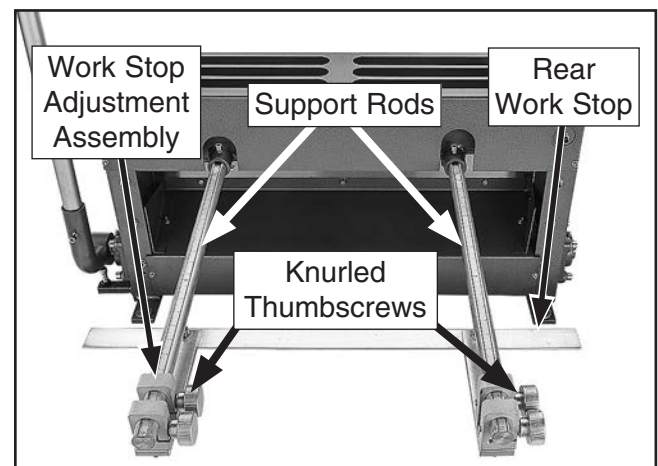

Figure 9. Rear work stop controls.
1. Slide work stop adjustment assembly evenly along support rods so rear work stop leading edge is at approximate desired distance from cutting edges of blades (see **Figure 9**).
2. To keep rear work stop assemblies secured in desired position, tighten knurled thumbscrews (see **Figure 9**).